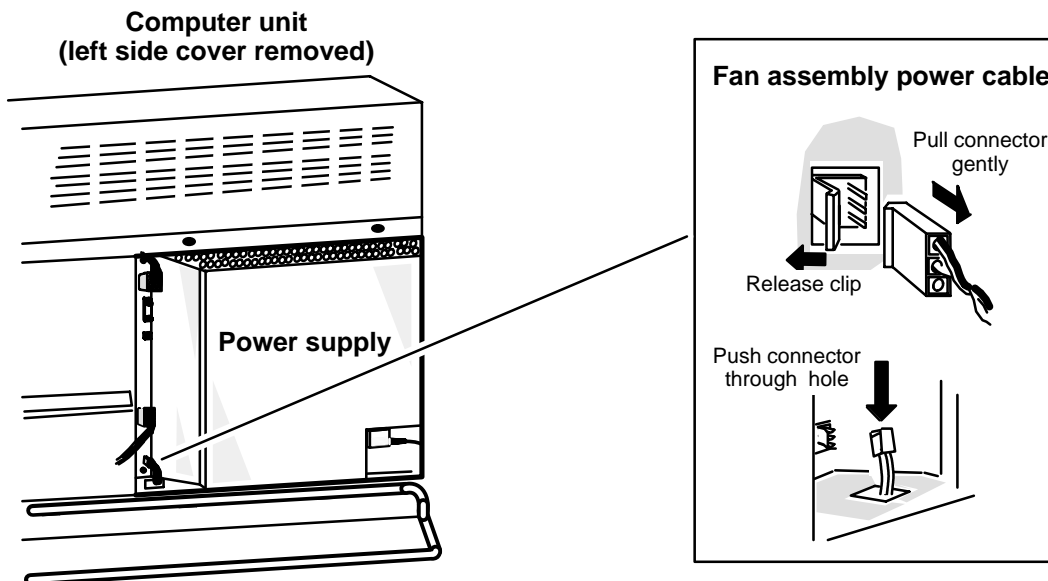

Figure 11-1 Unplugging the Fan Assembly Power Cable from the Power Supply
1. Unplug the fan assembly power cable from the power supply, and push it down through the hole in the computer unit as shown in Figure 11-1.